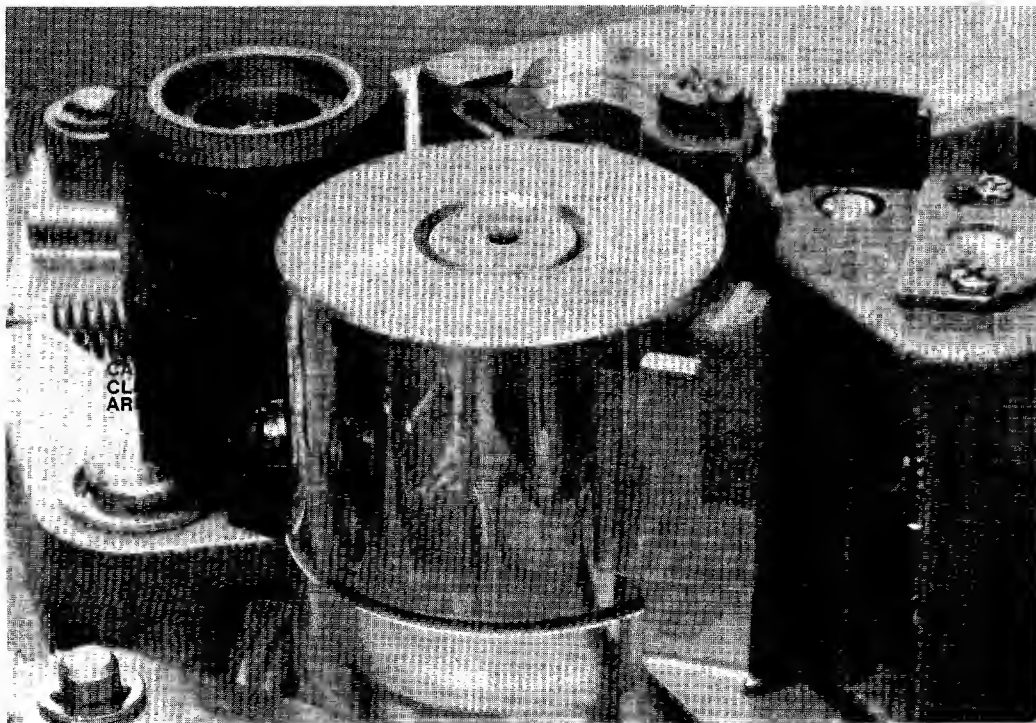

Figure 5-3. Capstan
3. Clean the entire surface of the capstan as shown in figure 5-3.